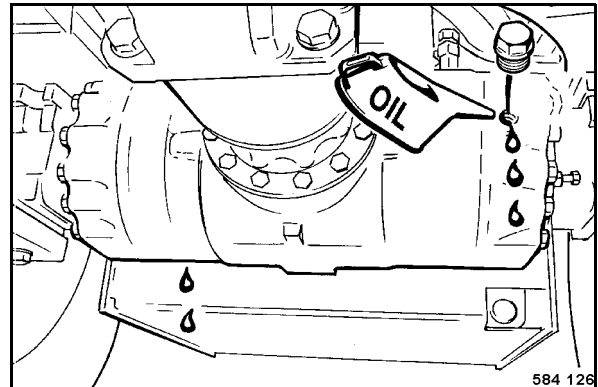

Fig. 128
- Unscrew the oil level inspection plug (Fig. 128) and check the oil level.